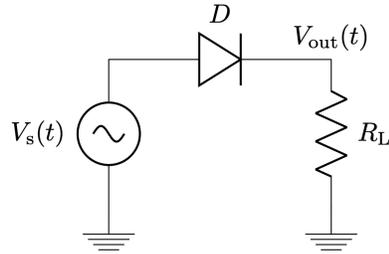

Figure 6: Half-bridge rectifier.
the US) wall outlet and convert to 5 V output at DC. A half-bridge rectifier is shown in Figure 6. This circuit is called a half-bridge rectifier because, for a sinusoidal AC input, half of the period is cut off, and the other half remains.
- P1. Using the model given in Figure 6, draw the expected output of the circuit for a sinusoidal input. Be sure to mark the amplitude and zero crossings on your axes (can be in terms of variables).